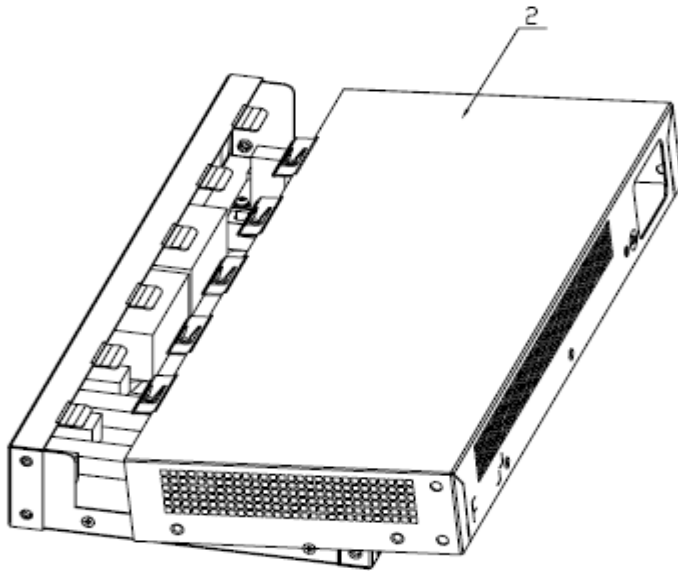

Figure 2 Remove cover
2. Unscrew the screws on cover 2, and then remove cover 2 according to figure 2.